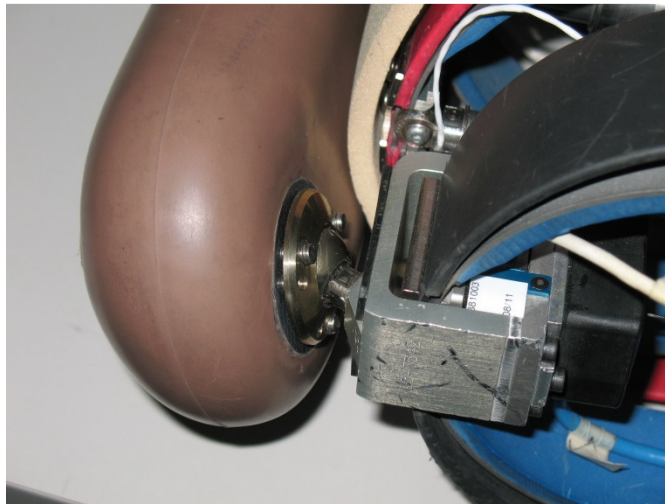

Figure 29. Arm assembly attached to shoulder load cell
- Figure 29 shows the arm assembly attached to the shoulder load cell